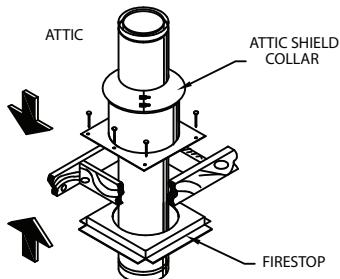

Figure 10
(2) 8-penny nails or two (2) #8, 1-1/2" wood screws per side (*Fig. 10*).
e. Wrap the Collar of the Attic Insulation Shield around the chimney and fasten it loosely. Slide the Collar down to meet the Attic Insulation Shield. Tighten the bolts to secure the Collar in place (*Fig. 10*).